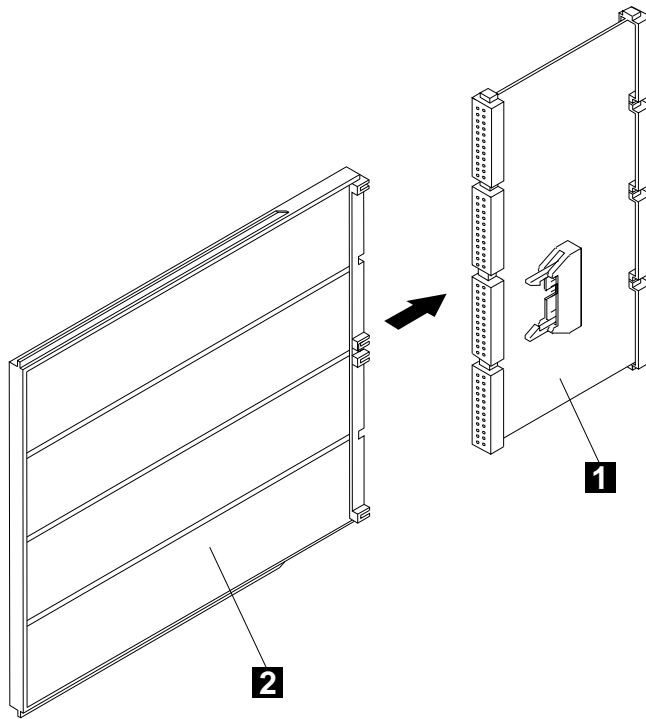

Figure 4-38. Installing a DICO Card Using a Dummy Card
- Step 7. ____ Then, using a dummy card **2** PN 2733278 push and put the DICO cards **1** in place (see Figure 4-38).